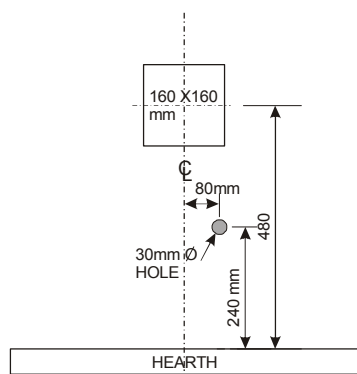

Figure 51 – Flue Duct Template
5. **If surface mounting the fan box assembly**, cut through the outer wall as detailed in **Figure 51**.
2. Using the template shown in **Figure 51**, mark the position of the flue above the hearth. Drill a pilot hole in the centre through to the outside wall.
4. A separate hole shall be made through the inside wall towards the bottom right hand corner of the fire box location, as shown in **Figure 51**, to accept the electric cable for connecting the fire box to the fan box assembly.
9. **If surface mounting the fan box assembly**, cut an opening in the outer wall as detailed in **Figure 51**.
2. Using the template shown in Figure 51, mark the position of the flue above the hearth. Drill a pilot hole in the centre through to the outside wall.
8. **If surface mounting the fan box assembly**, cut an opening in the outer wall as detailed in **Figure 51**. Ensure that the vapour barrier is cut carefully and made good to maintain its integrity.